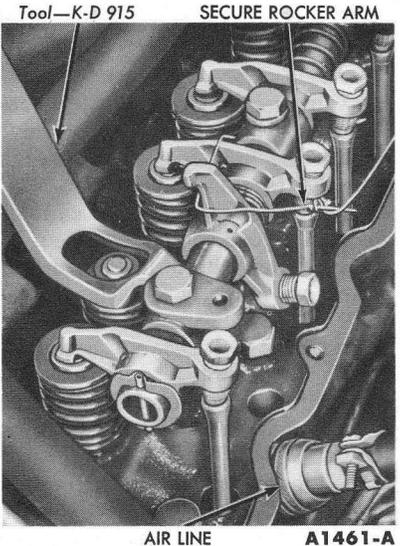

FIG. 49—Compressing Valve Spring
5. Push the rocker arm to one side and secure it in this position (Fig. 49). To move the rocker arm on either end of the shaft, it will be necessary to remove the retaining pin and spring washer and slide the rocker arm off the shaft.
6. Turn on the air supply. Using the valve spring compression tool shown in Fig. 49, compress the valve and remove the valve spring retainer locks, the sleeve, spring retainer, and the valve spring.